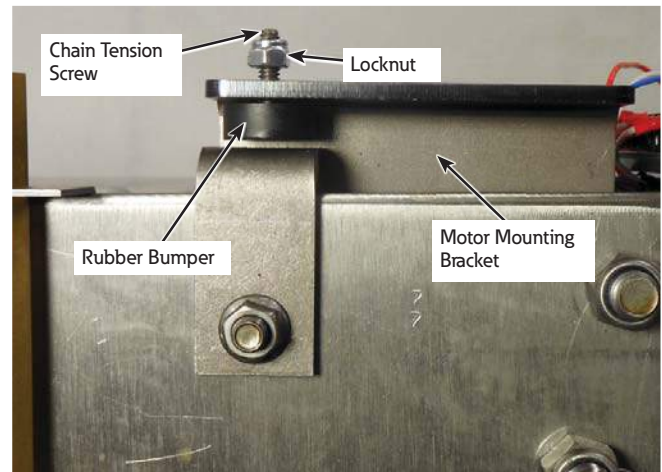

Figure 4. Loosening the chain tension
5. Loosen the locknut on the chain tension screw with a 7/16" wrench. Loosen the chain tension screw with a screwdriver until the rubber bumper is against the motor mounting bracket. Refer to Figure 4.